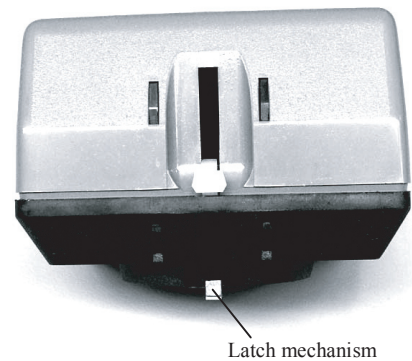

Figure 6.4 Diverter Valve Actuator
7.28 3- WAY HYDRONIC VALVE ACTUATOR (Figure 6.4)